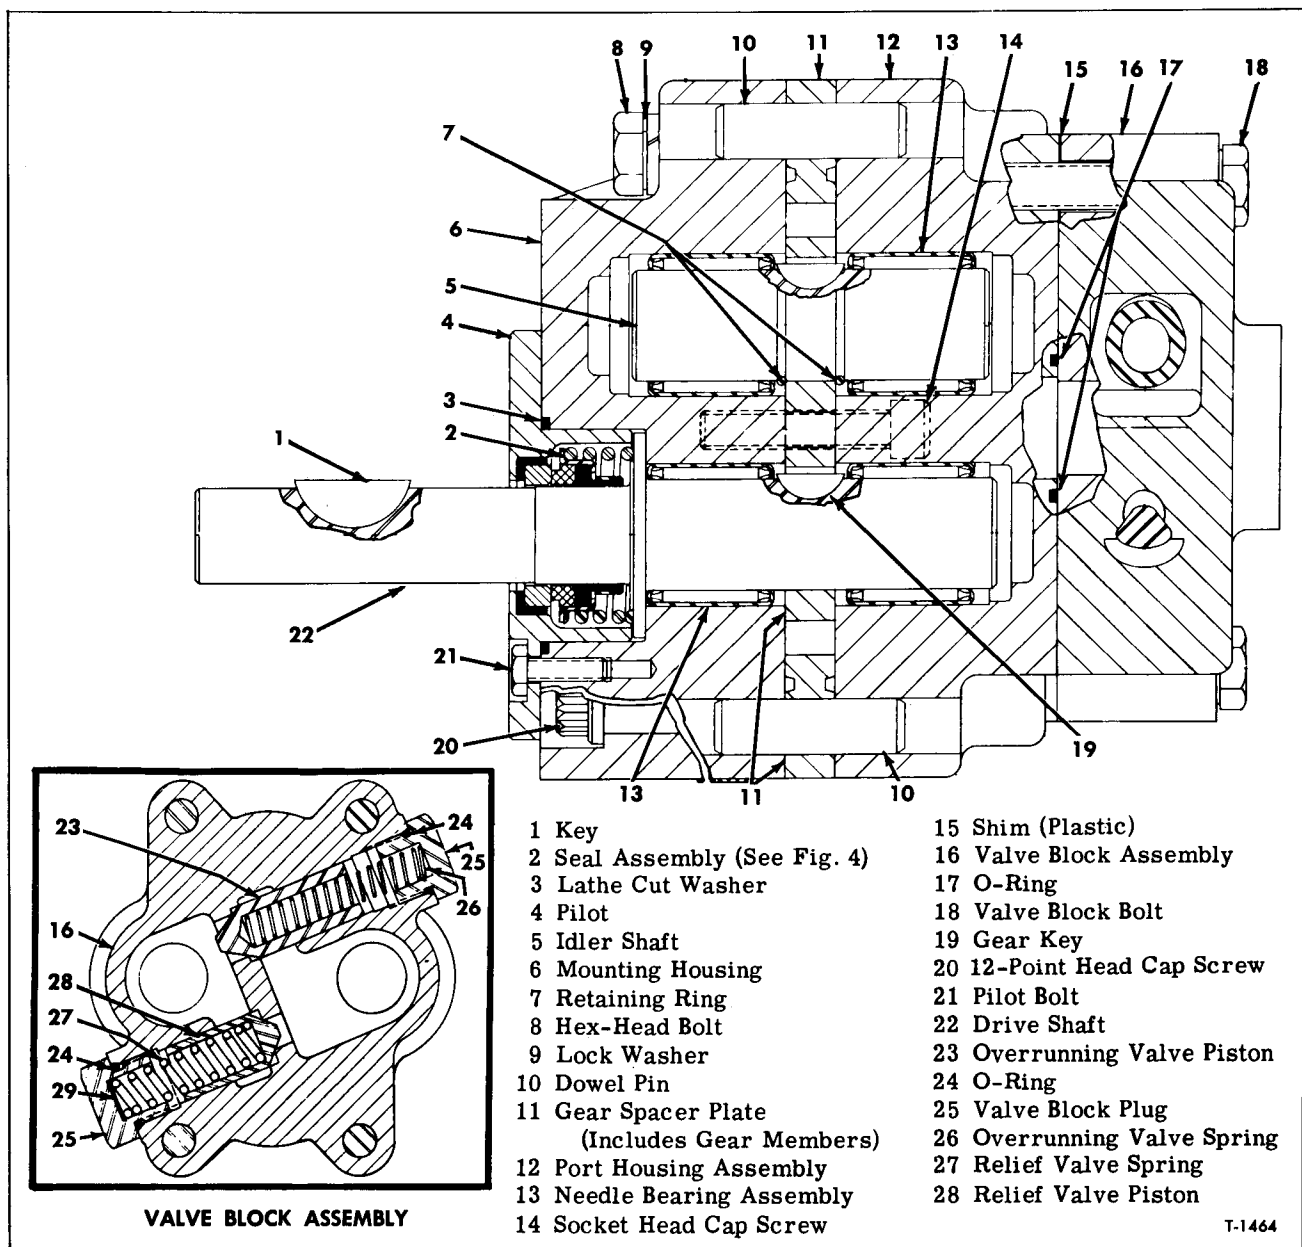

Figure 5—Sectional View of Condenser Fan Drive Motor
Key numbers in text refer to figure 5, unless otherwise indicated.
1. If new shaft bearings (13) are being installed, use suitable installer to press new bearings into housing bores. Bearings must be located as shown in figure 5, i.e., far enough into bore so that
12. Install lathe cut washer (3) in recess in mounting housing (6). Apply oil on seal face and seal seat, then position pilot (4) with seat and gasket over end of drive shaft and push down all the way. Remove pilot and check friction ring movement. Compress spring by pushing on seal face, then release. Friction ring must slide back with force of spring.
13. Assemble pilot (4) to motor and attach with pilot bolts (21).
14. Referring to sectional view of valve block (fig. 5), install relief valve piston (28), spring (27), shims (29), O-ring (24) and plug (25) into valve block as shown. At other port, install over-running valve piston (23), piston spring (26), O-ring (24) and plug (25) into valve block as shown.